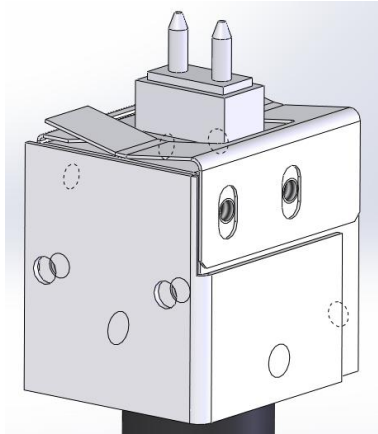

fig 56
- c. Replace a new light source by reverse steps, pay attention to the position of the light on the light source part, loaded flat and stable then fix the fixing plate (Fig56).